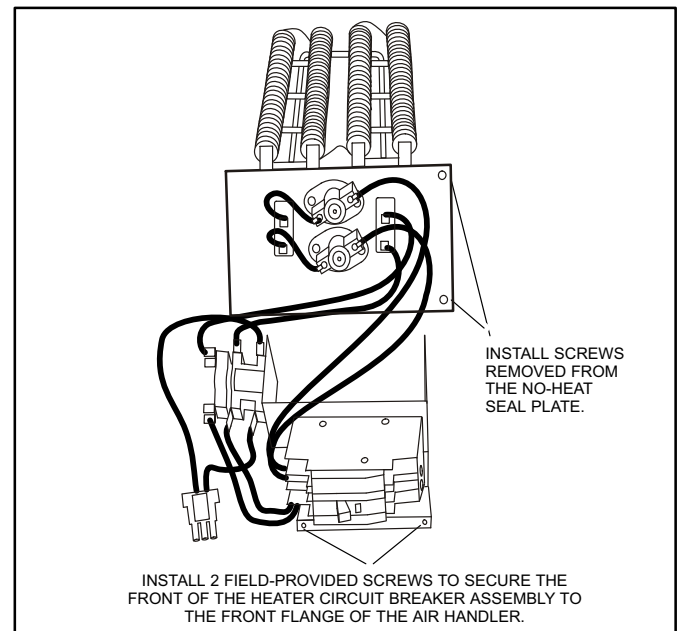

Figure 7. Installing the Heat Element Assembly
6. Secure the electric heater assembly into place with the screws that were removed from the heat element panel. Install two field-provided #8 SDST screws in the front of the electric heater assembly (see figure 7).